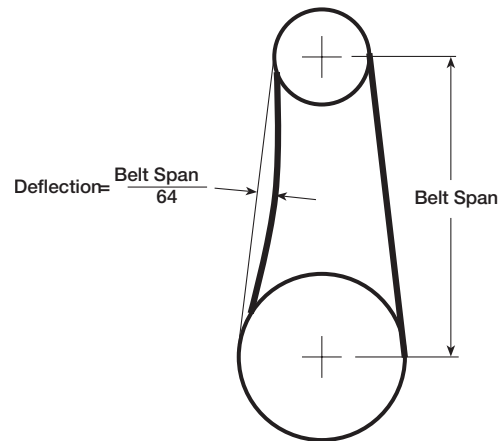

Figure 6
4. Belt tension should be adjusted to allow 1/64 inch of deflection per inch of belt span. For example, a 15 inch (381 mm) belt span should have 15/64 inch (or about 1/4 inch) of deflection with moderate thumb pressure at mid-point between pulleys, see Figure 6.
Belts too tight or too loose	Refer to Figure 6 and adjust tension.